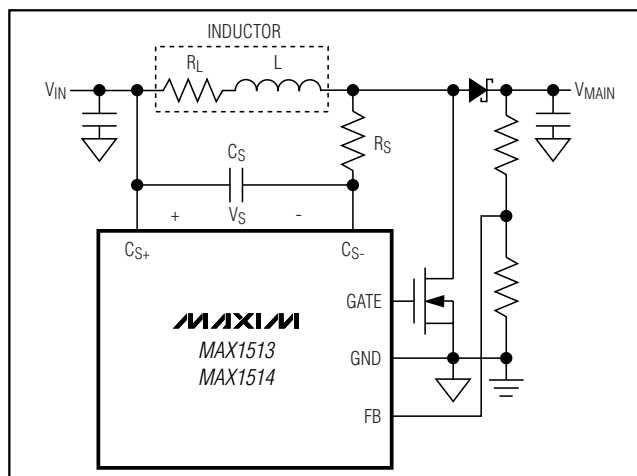

Figure 5. Step-Up Regulator Using Lossless Current Sensing
The lossless current-sense method uses the DC resistance (DCR) of the inductor as the sense element. Figure 5 shows a simplified step-up regulator using the basic lossless current-sensing method. An RC network is connected in parallel with the step-up inductor (L). The voltage across the sense capacitor (C_S) is the